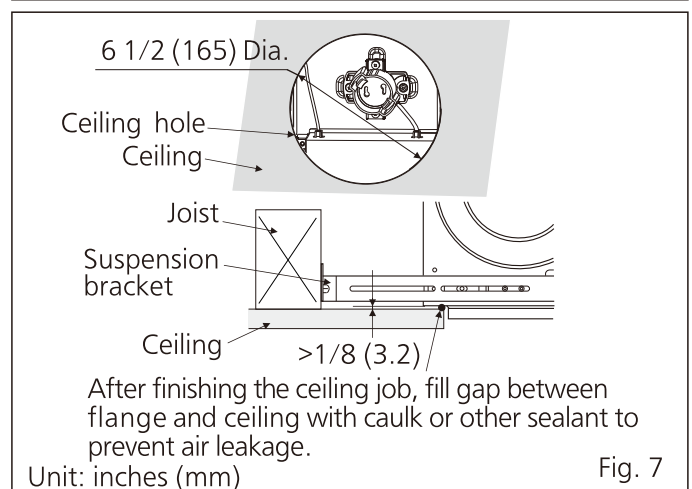

Fig. 7
- A circle ceiling hole (6 1/2 inches (165mm) dia.) should be cut. And make sure there will be a gap (>1/8 inches (3.2mm)) between bottom of fan body and ceiling. (Fig. 7)